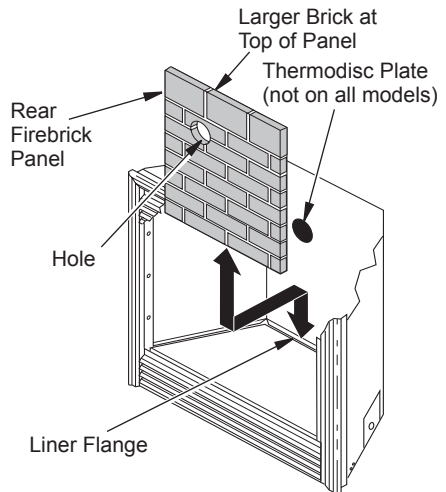

Figure 3 - Placing Rear Firebrick Panel on Flange in Fireplace
- With larger bricks at the top, install rear firebrick panel on back wall first. Rest the bottom edge of firebrick panel on liner flange. Stand firebrick panel straight up against the back of fireplace (see Figure 3). The side brick panels will hold the rear panel in place.
Note: If your fireplace has a thermodisc plate, make sure you position the hole in rear firebrick panel over the thermodisc plate on rear wall of fireplace (see Figure 3). If you cover the thermodisc plate with the firebrick panel, the fan will not run properly.